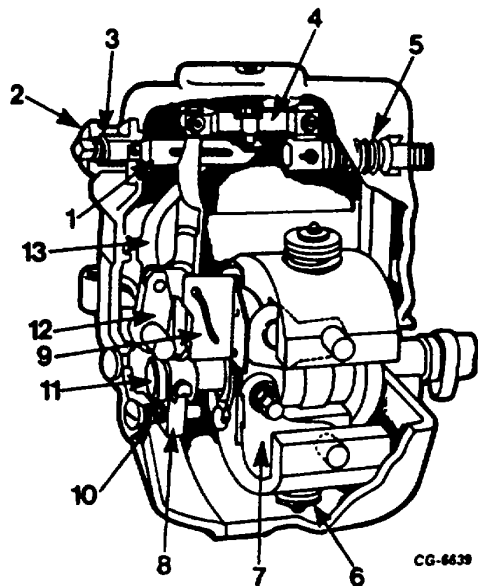
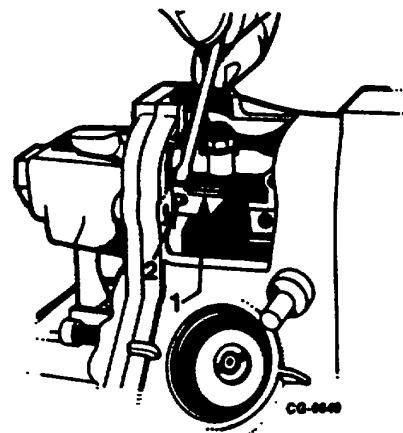

Figure 4. Cut-Away View of Governor Assembly
Figure 5. Disengaging Stop Shackle (Cut-Away View for Illustration)
4. Reaching down through rack link adjustment access hole with a small screwdriver (Figure 5), lightly pry stop shackle aside (to right as viewed from rear of pump) to disengage stop shackle from rocker arm pin. (See Figure 4 for relationship of parts)